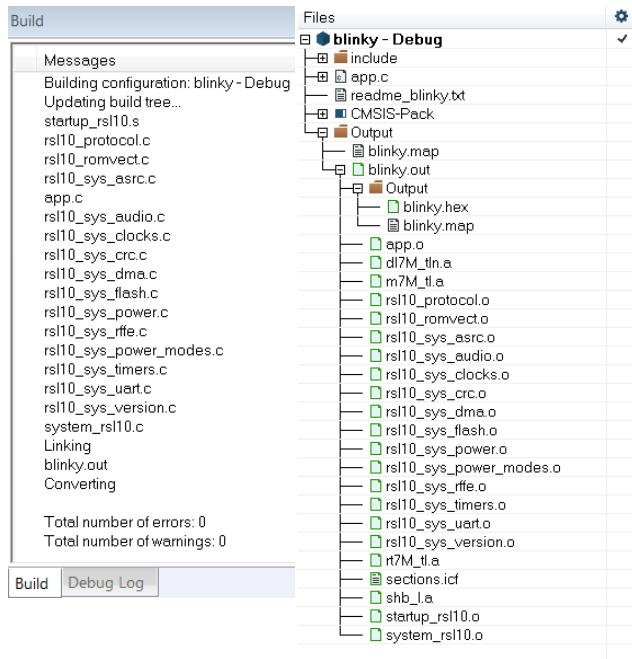

Figure 35. Example of Build Output
2. When the build is running, the output of the build is displayed in the Build Output view in the IDE, as illustrated in Figure 35.